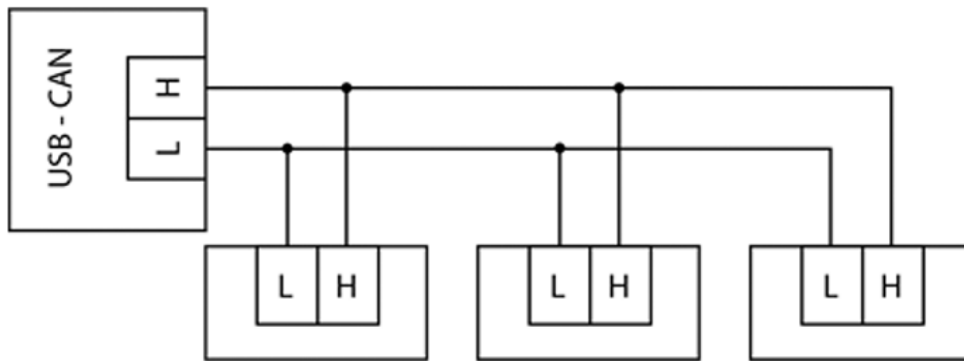

Figure 5: CAN interface connection scheme
2. Connect up to 200 drivers into the CAN network (fig. 5) by using the CAN hub (fig. 5).